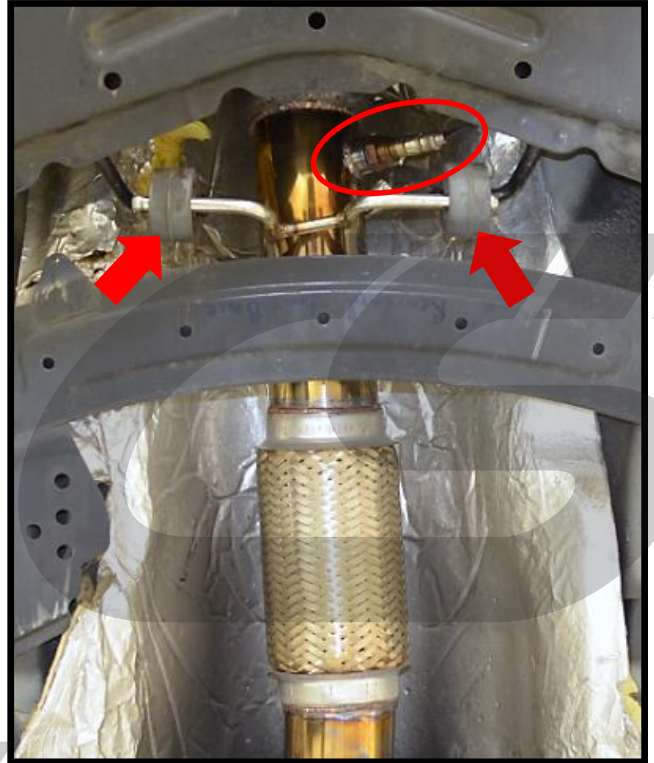

Figure 3g
h) Remove the lower oxygen sensor with an oxygen sensor socket and ½" ratchet, **circled in red** in **Figure 3g**.
i) Remove the exhaust hangers from the downpipe, shown with the **red arrows** in **Figure 3g**.